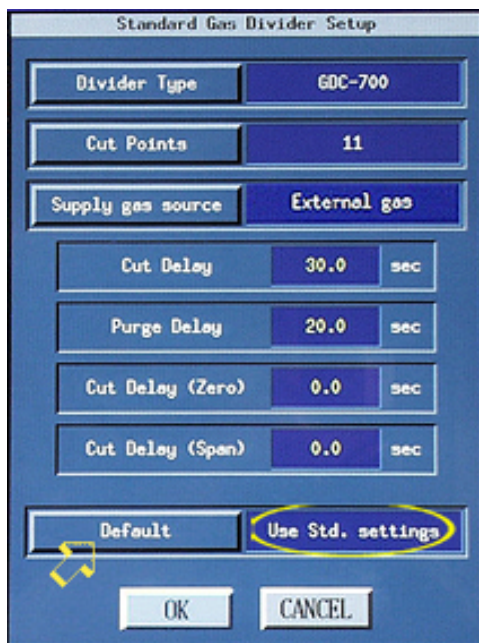

Figure 15
- 122 Verify that the field for “Default” is set for “Use Std. settings.” If not, click on “Default.” See the arrow in Figure 15. Select “Use Std. settings.” See the circle in Figure 15.